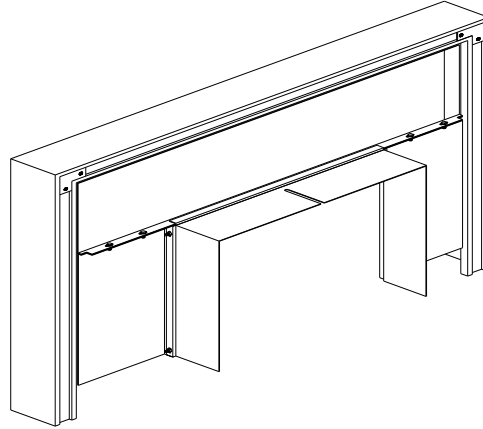

Figure 4
5. Line up the holes by pushing the sides out and install (smooth heads inside) all the bolts loosely. Line up the edge of the faceplate top and side, tighten the two bolts joining them, and then tighten the side bolts. Tighten the bolts on the other side in the same manner (see Figure 4).